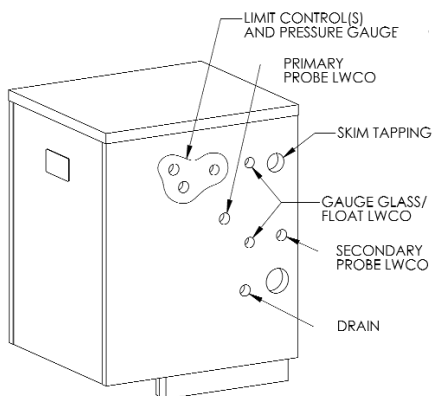

Figure 6.2: Steam Boiler Tapping Location
Install the 3/4" drain valve provided into the drain tapping on the right hand side of the boiler. Refer to Figure 6.2 for tapping location.
- b. **Probe Type:** Install the optional probe type low water cut-off into the 3/4" tapping on the right side of the boiler. Refer to Figure 6.2 for tapping location. The supplied control incorporates a 60 second off cycle after a 15 minute on cycle. This feature allows the water level in the boiler to settle so that the probe can sense a true water level.
- a. Install the operating limit control and pressure gauge in the 3/4" tappings located on the right side of the boiler. Refer to Figure 6.2 for tapping location.